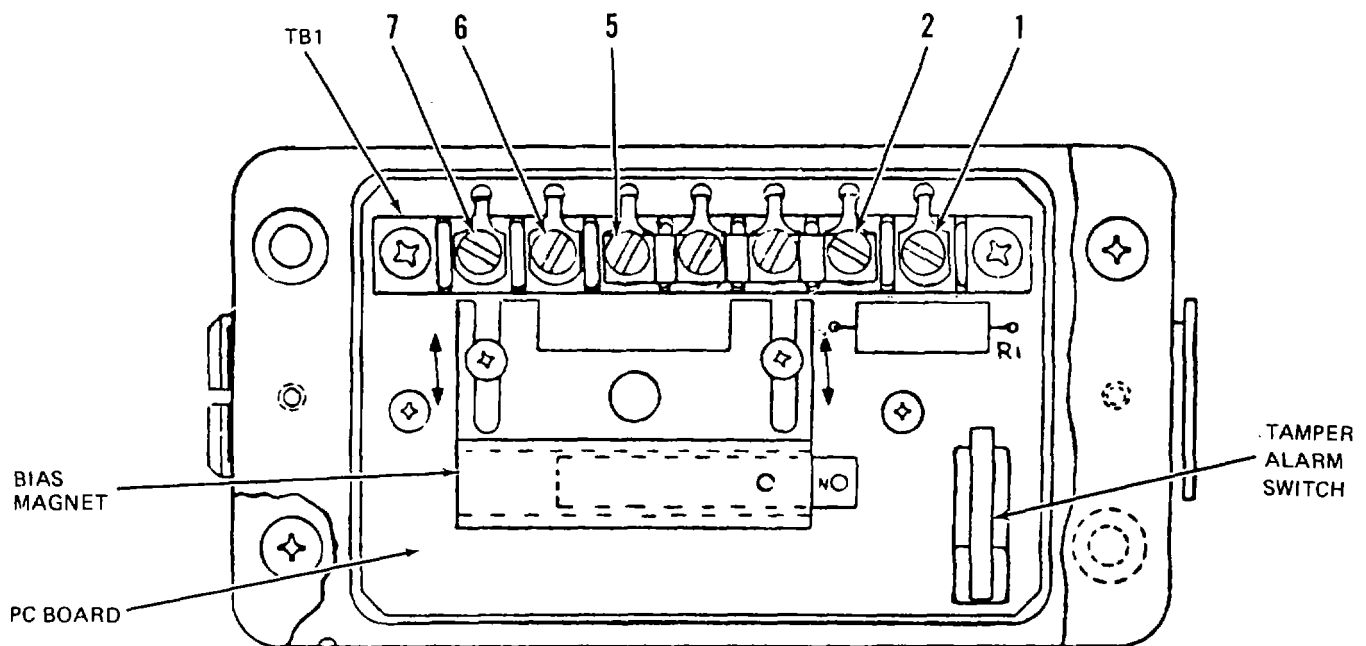

Figure 5-1. Balanced Magnetic Switch, with Troubleshooting Test Points
- (6) Inspect all metal surfaces intended to be painted for condition of finish and legibility of panel lettering.
- f. Refer to figure 5-1 for all test points found in the troubleshooting table. Step-by-step troubleshooting procedures, including Trouble, Probable Cause, and Corrective Action, are listed in table 5-1.